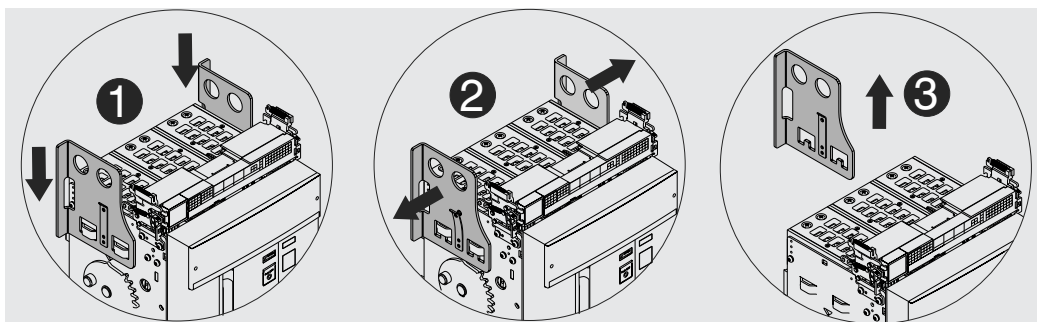

Figure 90
5. Unlatch the tongue and remove the lifting plates from the moving part. See Figure 90.